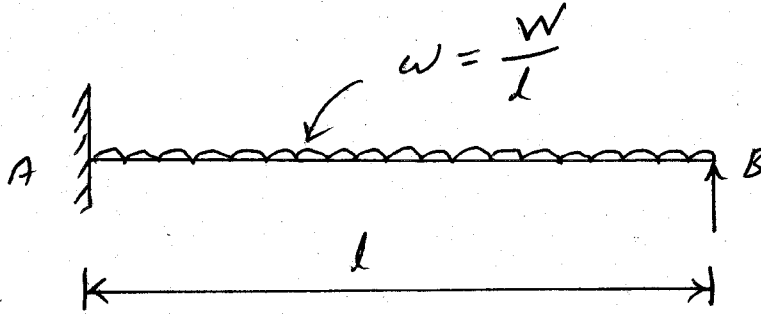

Fig.6
- (b) Analyse the propped cantilever loaded as shown in figure 6, determine the collapse load. 12